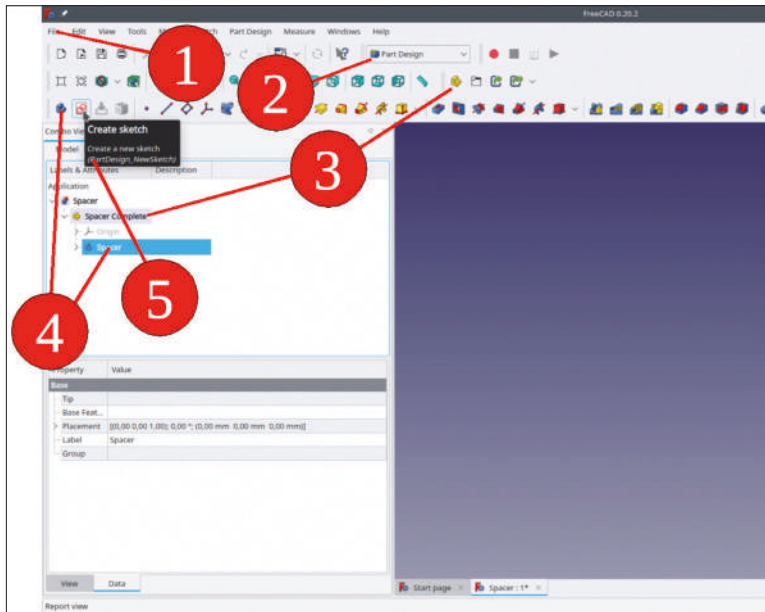

Figure 4-1
Click on the yellow 'Part' tool button in the workbench menu (Figure 4-1), to generate a new Std-Part-Container. In the tree view, you can see that the Std-Part-Container is created together with its own coordinate system named 'Origin' (grayed). Rename the Std-Part-Container to 'Spacer Complete' by right-clicking the entry in the tree view and selecting 'Rename' from the context menu. Alternatively, it is possible to mark the Std-Part-Container in the tree view and press F2. But caution — then, it depends on the mouse pointer position, which field is updated. This can be confusing: If the mouse pointer is pointing underneath the 'Labels and Attributes' column, renaming works as expected. If the mouse pointer rests underneath the 'Description' column, the description field opens for editing. The name 'Spacer Complete' sounds a bit overkill — as the spacer consists of just one body object. But it is good practice to think of multiple bodies right away. Along with the spacer, you will later add the screw, washer and nut, to the same container.
As a last preparation, you activate the new Std-Part-Container by double-clicking on its tree view line (the title of the item is then displayed in bold letters) and selecting the blue 'Body' tool button from the workbench menu. Rename the new body object in the tree view to 'Spacer', using one of the methods described above. In Figure 4-1, all these steps have been completed for your reference.
**2.** Now, in order to create the first part, define the cross-section of the spacer as a sketch. Click on the 'Create Sketch' tool button in the workbench menu (Figure 4-1, number 5). A task window opens, in which it is possible to select the sketch plane. You can either select the plane from the list or click on a plane representation in the 3D view. As the sketching plane, select the XY-Plane001 from the list and close the task window with the 'OK' button (on the top of the task window). The sketcher workbench